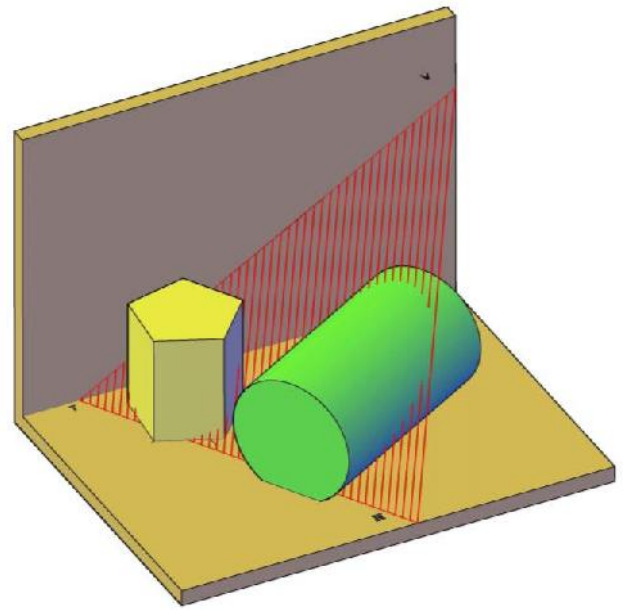

Figure 6a
6. A prism is placed on its pentagonal base between a vertical plane and a horizontal plane. A cylinder resting on its sides is also placed next to the prism. The cylinder has a segment cut off to prevent the solid from rolling. The two geometrical solids are cut by an oblique plane VTH as illustrated in Figure 6a.